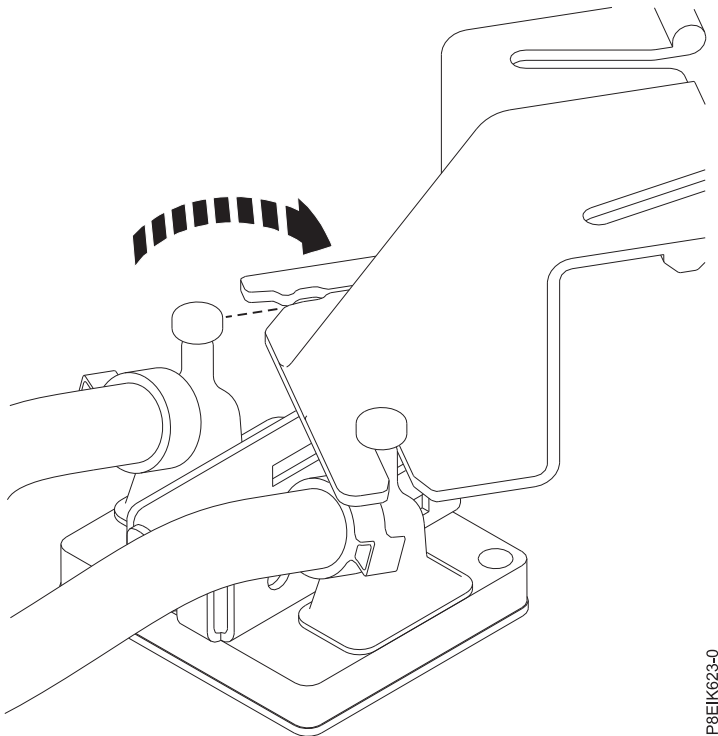

Figure 36. Removing the first cold plate pin from the holder
- b. Pivot the cold plate to slide one pin from the holder as shown in Figure 36.